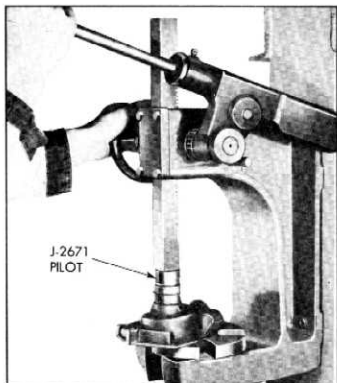

Fig. 126—Installing Shaft and Bearing Retainer
2. Press shaft and bearing retainer onto pump body using a short piece of $1\frac{1}{2}$ " I.D. pipe or pilot of J-2671 transmission third speed bushing installer (fig. 126).